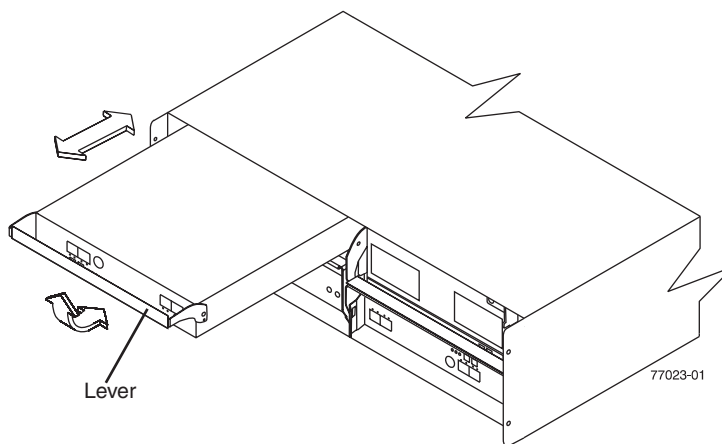

Figure 49. Removing and replacing an Environmental Services Monitor (ESM)
8. While squeezing the latch, pull the lever open 90° (so that the lever is horizontal). Pull the lever away from the chassis to remove the ESM from the EXP810 midplane, as shown in Figure 49.